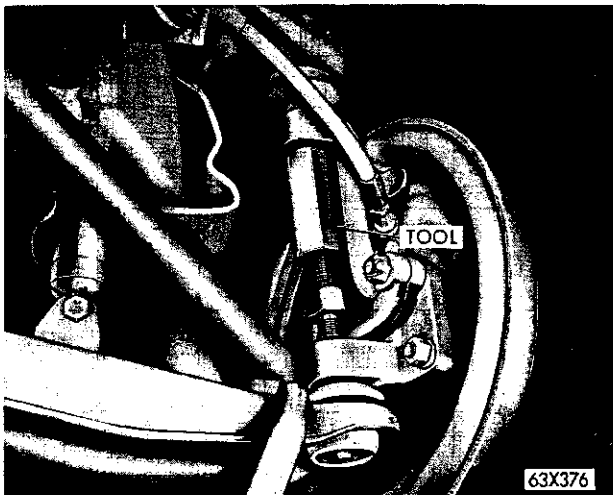

Fig. 6—Removing Lower Ball Joint from Knuckle
(1) Place a jack under the lower control arm and raise the vehicle.
(2) Remove the wheel, tire and drum assembly and the brake support plate.
(3) Remove the upper and lower ball joint and nuts. Slide Tool C-3564 over the upper stud until the tool rests on the steering knuckle. Turn the threaded portion of the tool locking it securely against the lower stud (Fig. 6). Spread the tool enough to place the lower stud under pressure, then strike the steering knuckle sharply with a hammer to loosen the stud. Do not attempt to force the stud out of the knuckle with the tool alone.
(4) Remove the tool, then disengage the ball joint from the knuckle.
(5) Using Tool C-3560 for Models TC-1, TC-2 and TC-3 or Tool C-3561 for TY-1, unscrew the ball joint housing from the lower control arm and remove.
- (2) Remove the torsion bar, Paragraph 5.
- (3) Remove the wheel, tire and drum assembly. Remove the brake support plate assembly.
- (4) Disconnect the shock absorber at the lower control arm bracket then push the shock absorber up into the frame out of the way.
- (5) Remove the nuts, lockwashers and bolts that attach the strut to the lower control arm.
- (6) Remove the upper and lower ball joint stud nuts. Slide Tool C-3564 over the upper stud until the tool rests on the steering knuckle. Turn the threaded portion of the tool locking it securely against the lower stud (Fig. 6). Spread the tool enough to place the lower stud under pressure, then strike the steering knuckle sharply with a hammer to loosen the stud. **Do not attempt to force the stud out of the knuckle with the tool alone.**
- (7) Remove the tool, and disengage the ball joint from the knuckle.
- (8) Remove the cotter pin, nut and washer that attaches the lower control arm shaft to the frame. With the washer and cotter pin removed, reinstall the nut until it is flush with the end of the shaft to protect the threads.
- (9) Using a hammer and brass drift, loosen the shaft (a tapered fit in front crossmember), then remove the nut. Slide the lower control arm and shaft out from the rear of the crossmember.